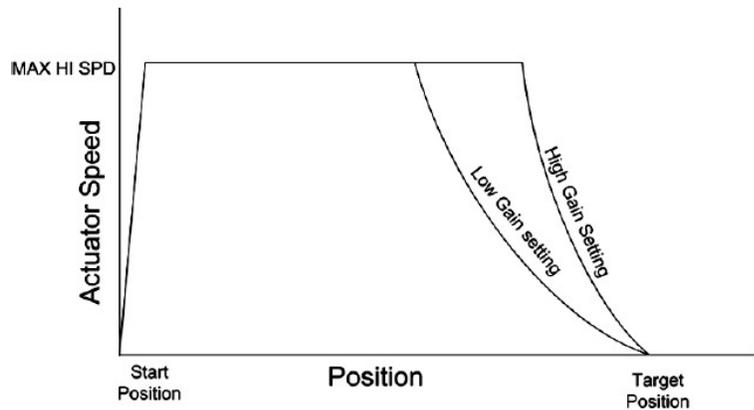

Figure 41: Gain
**Gain** determines how motor speed is adjusted as the actuator approaches the target position. The higher the **Gain** setting, the closer the actuator will get to the target position before decelerating. With a lower **Gain** setting, the actuator will begin decelerating further away from the target position. This parameter is factory set to an ideal value for the actuator model configuration. It may be changed if the application warrants it. See Figure 41 for more information.